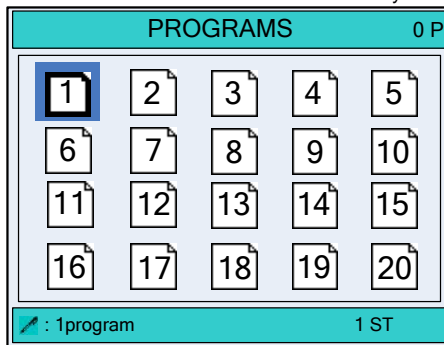

Figure 3-3 The **PROGRAMS** page
**Step 2** Press **P** to enter the **PROGRAMS** page, as shown in Figure 3-3.